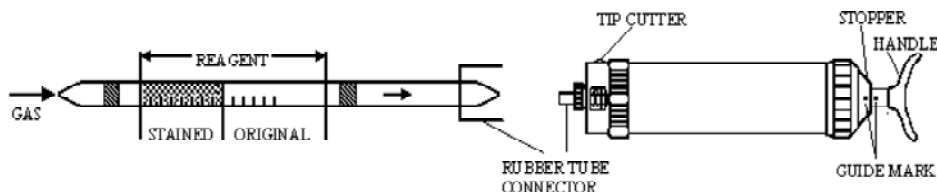

Fig.1
- ① Break both ends of detector tube.
- ② Insert the detector tube into aspirating pump securely as shown in Fig.1. (Arrow mark shall point to the pump.)
- ③ Align the guide marks on the shaft and stopper of the aspirating pump.
- ④ Pull the pump handle at full stroke until it locks and wait for 2 minutes or until the completion of sampling is confirmed with the flow indicator of the pump (See descriptions about the flow indicator in the instructions of the pump).